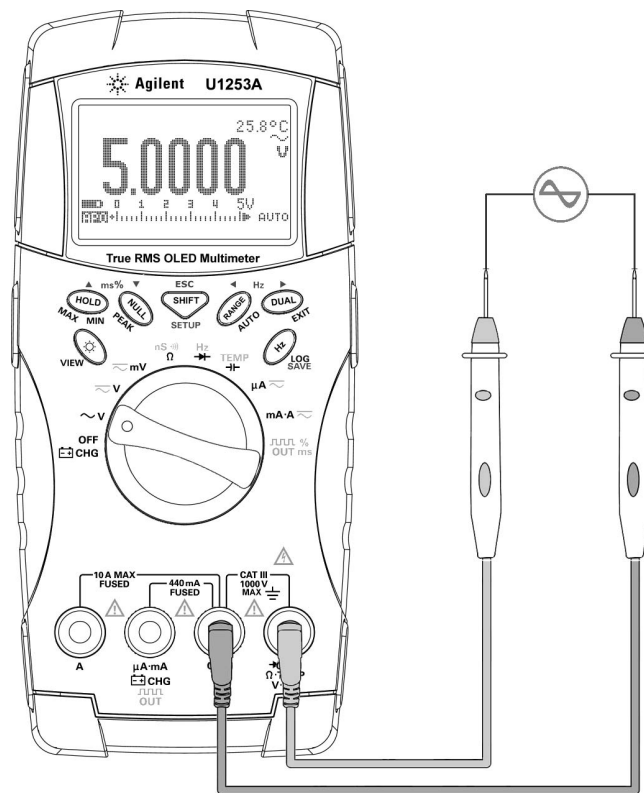

Figure 2-1 Measuring AC voltage
- 3 Connect the red and black test leads to input terminals **V.mV (red)** and **COM (black)** respectively (refer to Figure 2-1 on page 31).